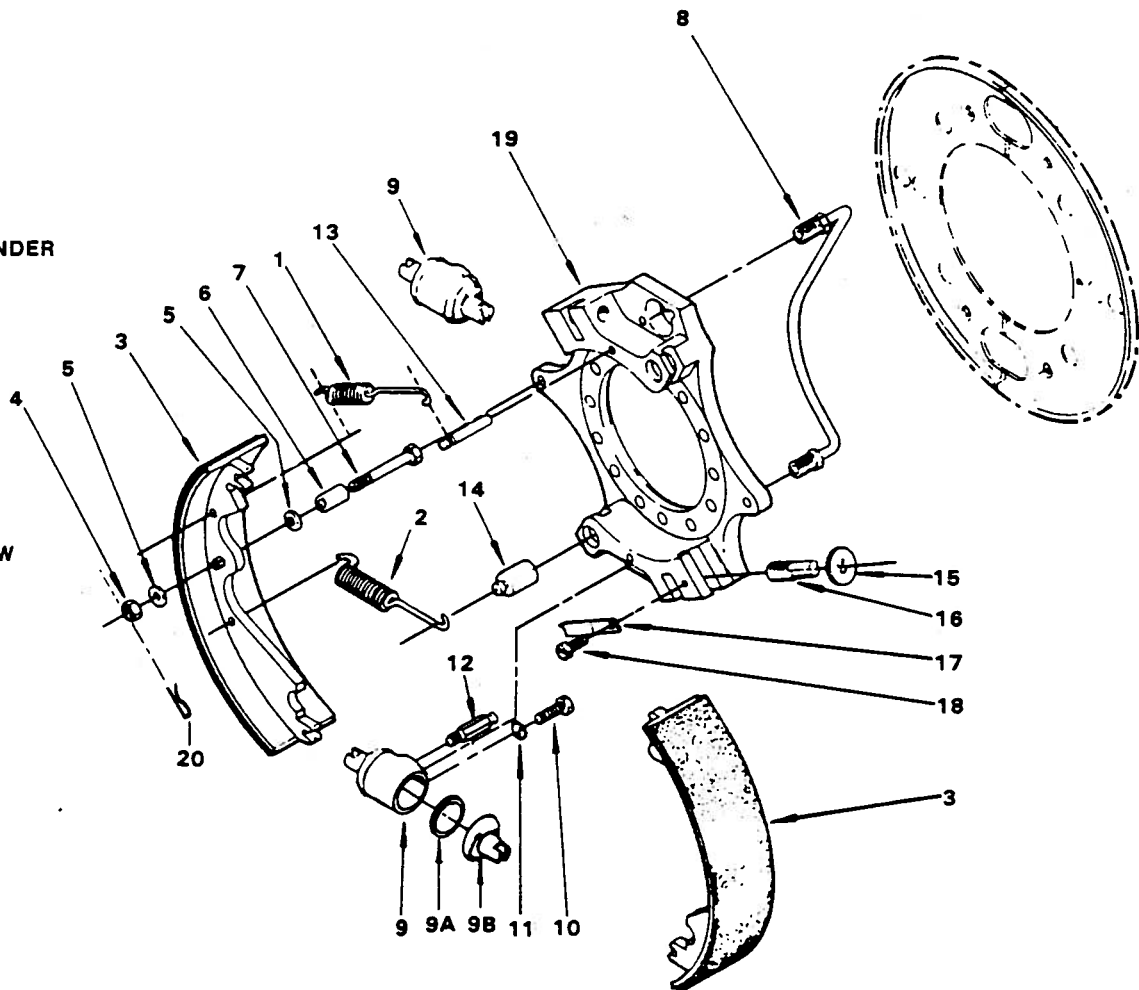

Figure 5-56. Axle Brake Assembly
5-76. REMOVAL. (See figure 5-56.)
- c. Remove snap ring (13), gear (14), gear washer (15), lock screws (16), and lock plate (17).
- d. Remove nut (18), gear (19), gear hub (20), and hub (22).
- e. Remove springs (1 and 2, figure 5-56).